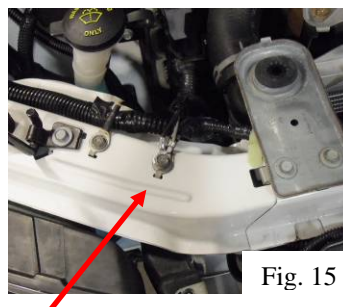

Fig. 15
- 36) The black and grey ground cables should be connected to the bolt on the radiator support where the two factory ground wires are attached. The weatherpack connectors can be connected to the fans at this point. The longer fan lead should be connected to the driver side fan (Fig. 15).